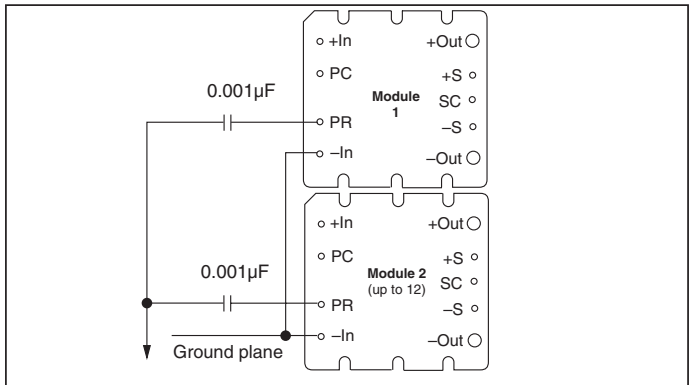

Figure 10 — AC coupled single-wire interface.
*AC coupled single-wire interface.* All PR pins are connected to a single communication bus through 0.001  $\mu\text{F}$  (500 V) capacitors. This interface supports current sharing and is fault tolerant except for the communication bus. See Figure 10.